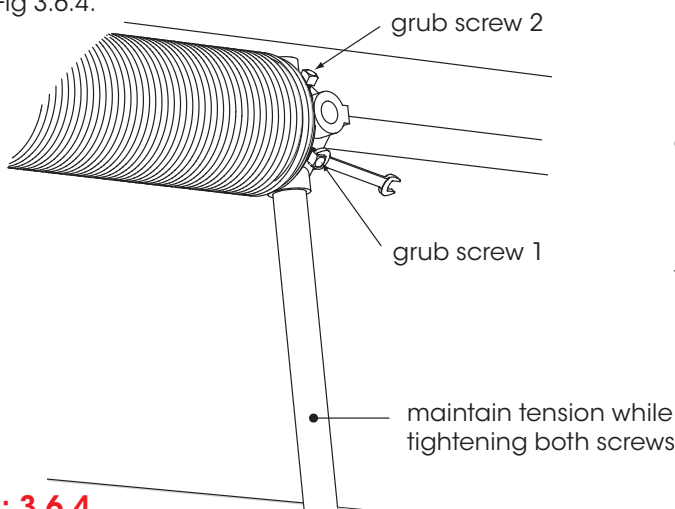

Fig: 3.6.4
- d) Maintain firm tension on the winding bar, while using a spanner to tighten the two (2) grub screws. Fig 3.6.4.